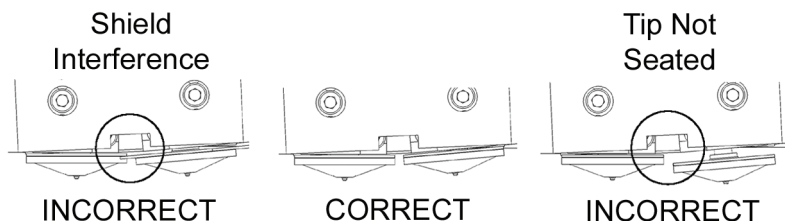

Figure 22: Installation Examples
8. Verify the tip is fully inserted into the heater block and that the stainless steel shield is aligned (See Figure 22 on page 54).